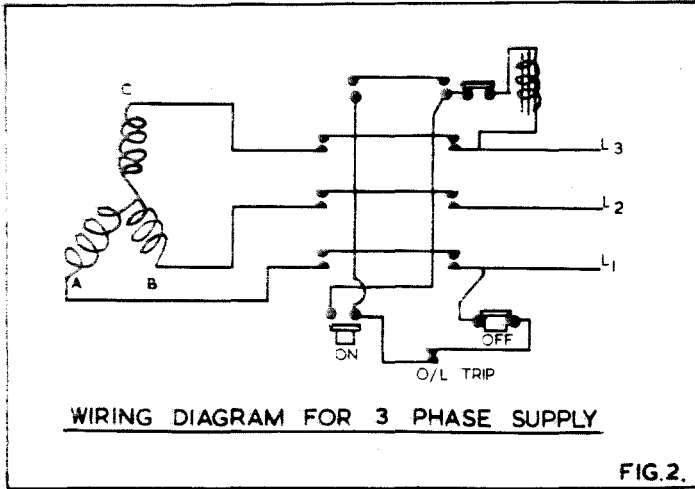
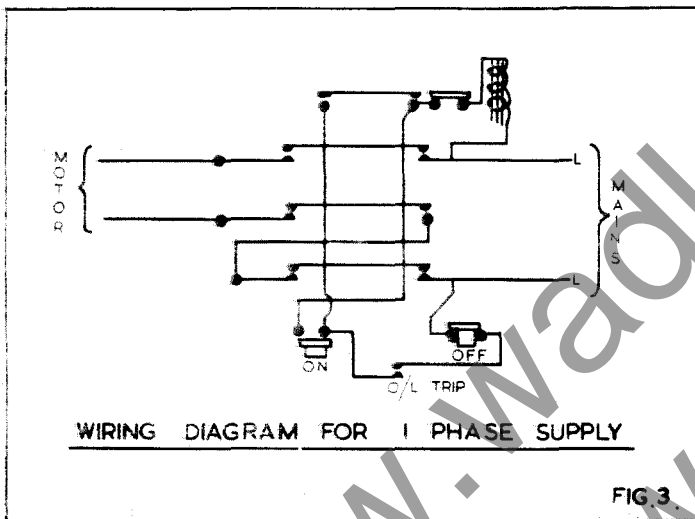

FIG. 2.
FIG 3
4. Connect the line leads to the appropriate terminals. See fig. 2 for 3 phase supply and fig. 3 for 1 phase supply.